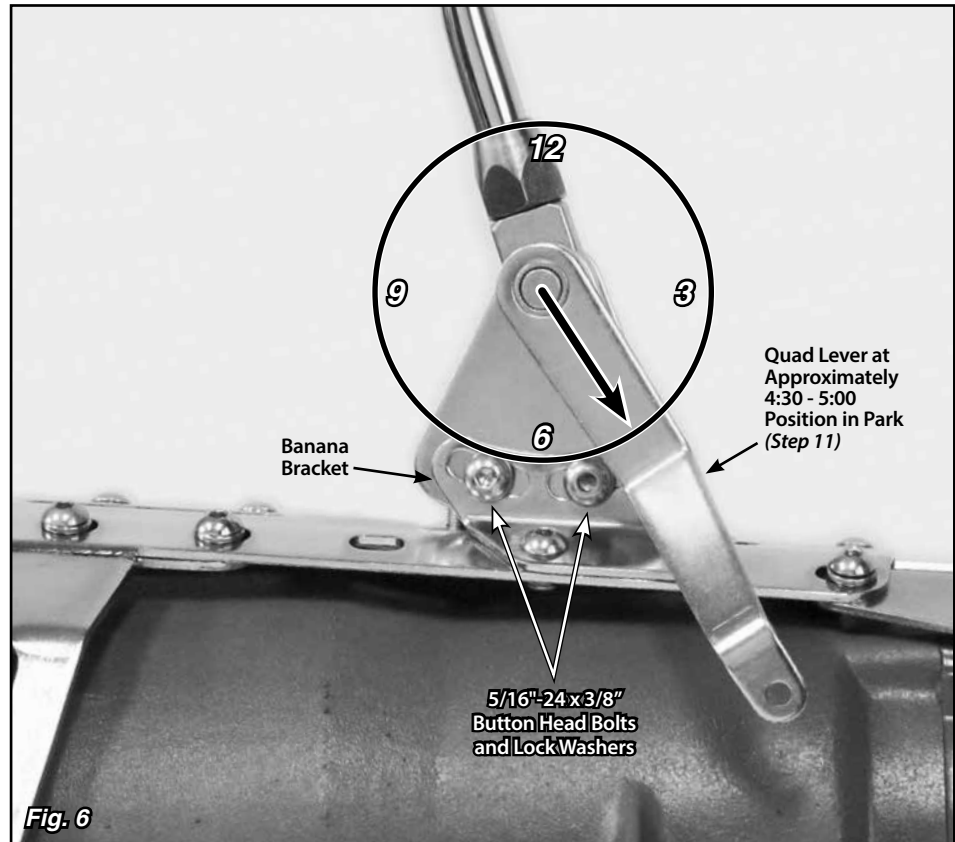

Fig. 6
Step 10: Make sure the two 5/16"-24 x 3/8" button head bolts and lock washers that attach the driver side banana bracket to the shifter assembly (in the curved, slotted holes) are tight. Before tightening the shifter assembly down to the main plate, move the shifter lever through all the gear positions. Make sure that the shifter lever and knob will not come in contact with the dash or the seat. The shifter assembly can be tilted forward or backward if needed by loosening the 5/16"-24 x 3/8" button head bolts and lock washers in the curved, slotted holes in the driver side banana bracket. **Fig. 6**
Step 11: Put the shifter lever into the Park position and check the position of the quad lever. It will need to be pointing to about the 4:30 - 5:00 position. If it is not, loosen the set screw in the top of the quad lever with a 1/8" Allen wrench and slide the quad lever off of the shaft. Reposition it on the shaft at approximately the 4:30 - 5:00 position, and retighten the set screw. **Fig. 6**
Double check to make sure that the bolts connecting the **driver** side banana bracket to the shifter assembly are tight. **Fig. 6**